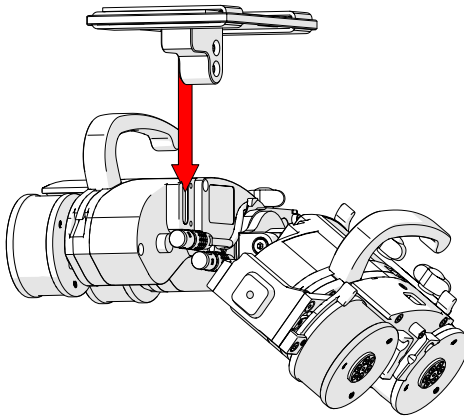

Fig. 268 - Pivot and insert dovetail nut
1. Allow the **NAVIC** crawler to pivot, exposing the inside of the left drive module (Fig. 268).
2. Slide the dovetail nuts of the backpack into the accessory dovetail groove (Fig. 268).